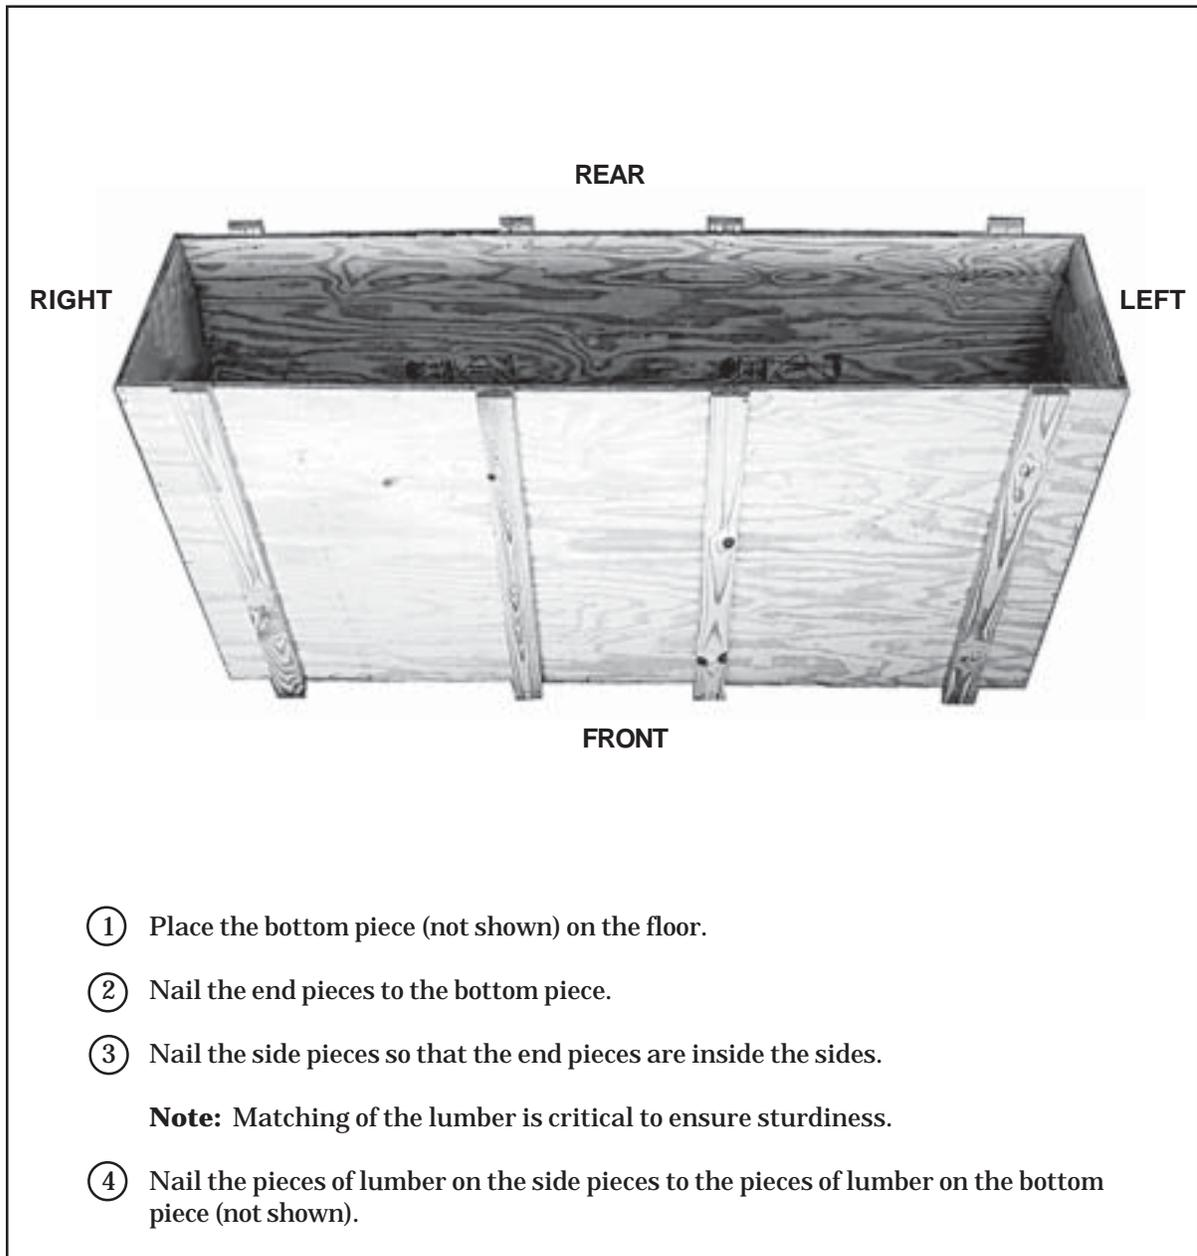

Figure 1-6. Container Assembled
- d. **ASSEMBLING CONTAINER.** Assemble the container for FARE as shown in Figure 1-6.